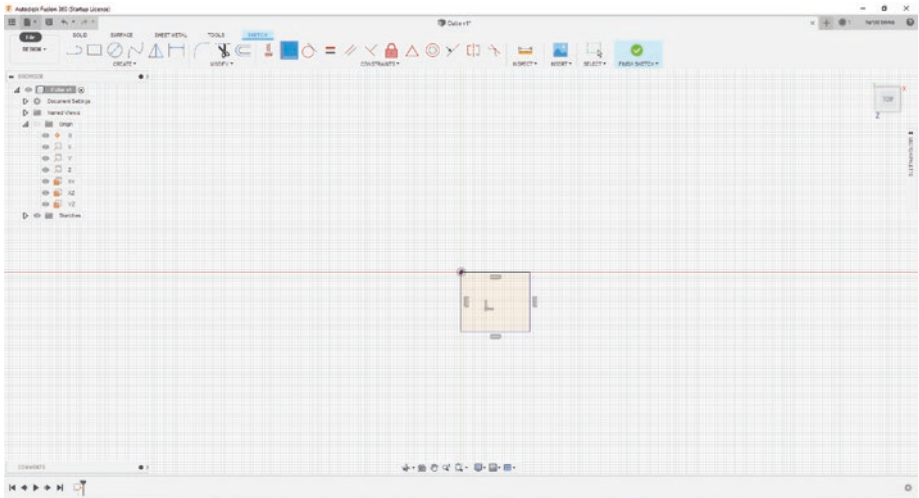

Figure 3-45. Select Coincident from the drop-down menu
8. Select the “Coincident” selection, then select the origin, and you will notice that your square has moved to the origin and two of the four sides of your square have turned black which indicates those sides are now constrained. See Figure 3-45.